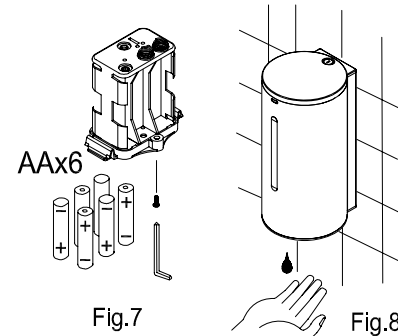

Fig.7
3. Use 6 new Alkaline AA ( 1.5V ) batteries. Ensure batteries are installed properly and in the right direction ( note +/- indication ) . ( Fig.7 )
2. Remove cover from battery box, put the 6 Alkaline AA 1.5V batteries into the battery box, reinstall battery box and close with cover. ( Fig. 7 )
LED flashes when unit is not used	- Low voltage: change batteries. (Fig. 7) - Sensor is activated constantly. - Remove the object below the sensor. - If above does not help, please call your dealer for professional assistance.